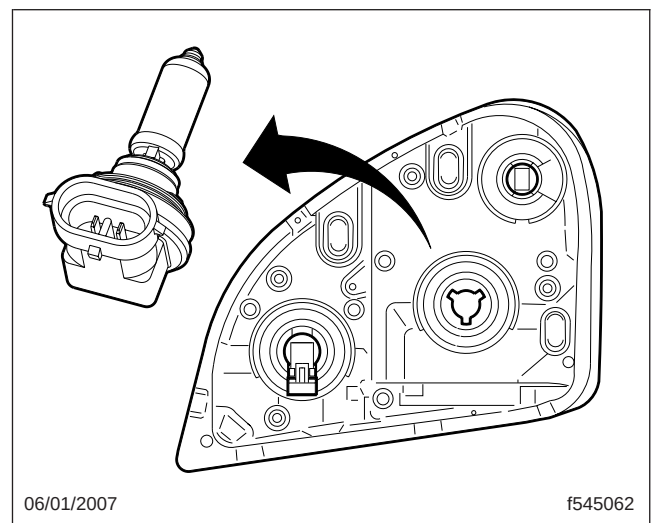

Fig. 3, Bulb Removal
2. Twist the bulb counterclockwise a quarter turn and remove the bulb. See **Fig. 3**.